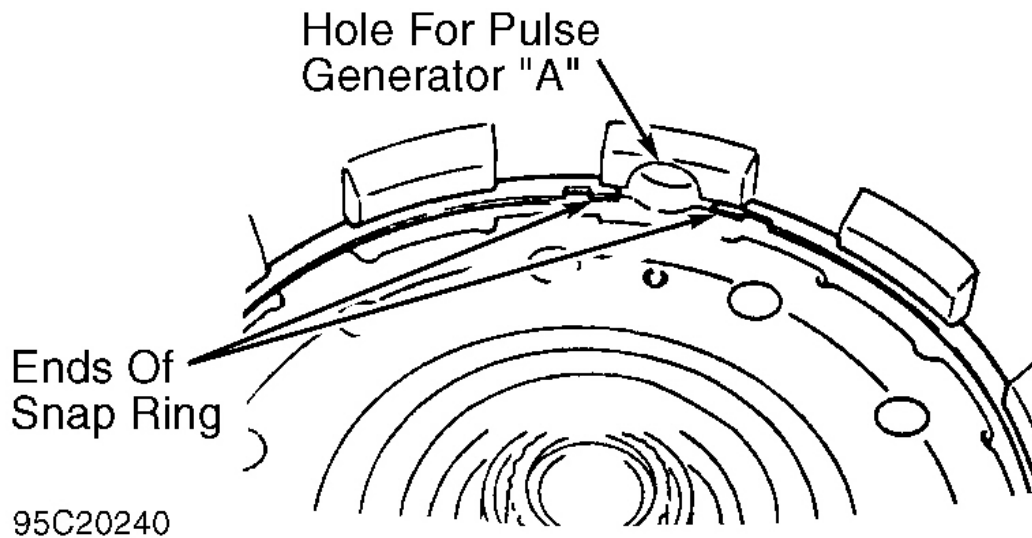

Fig. 42: Installing Snap Ring For Center Support
35. Install snap ring that retains center support in transaxle housing so ends of snap ring align with hole in transaxle case for pulse generator "A". See **Fig. 42** .